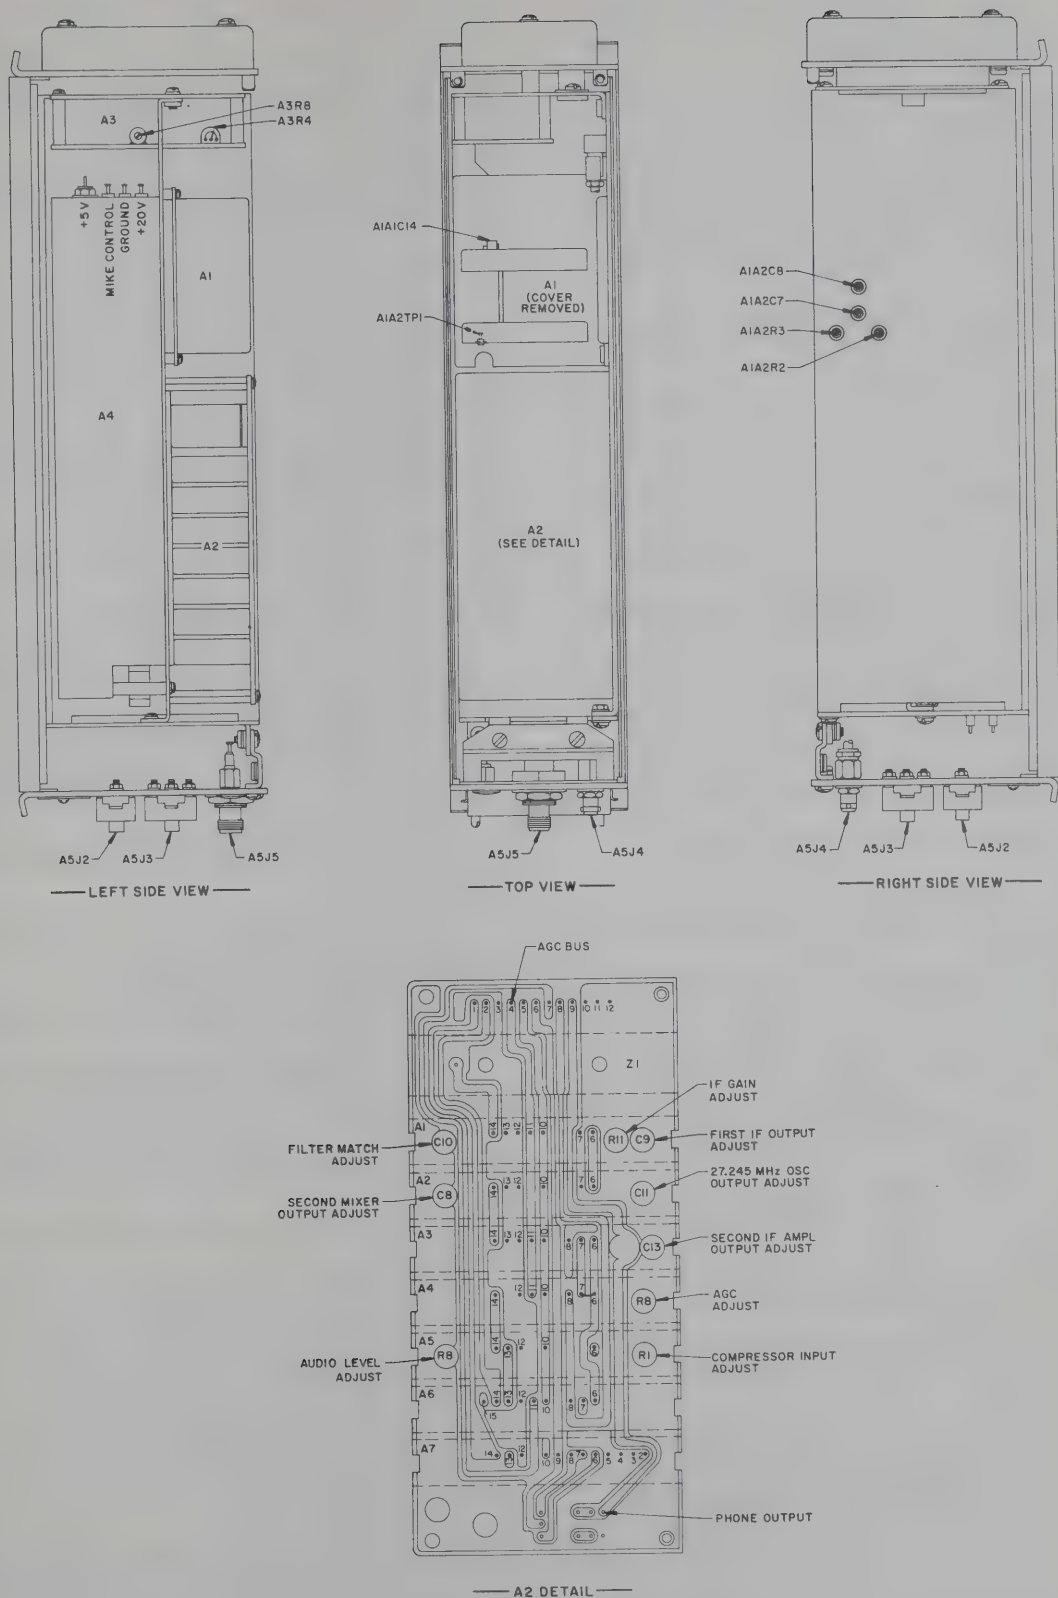
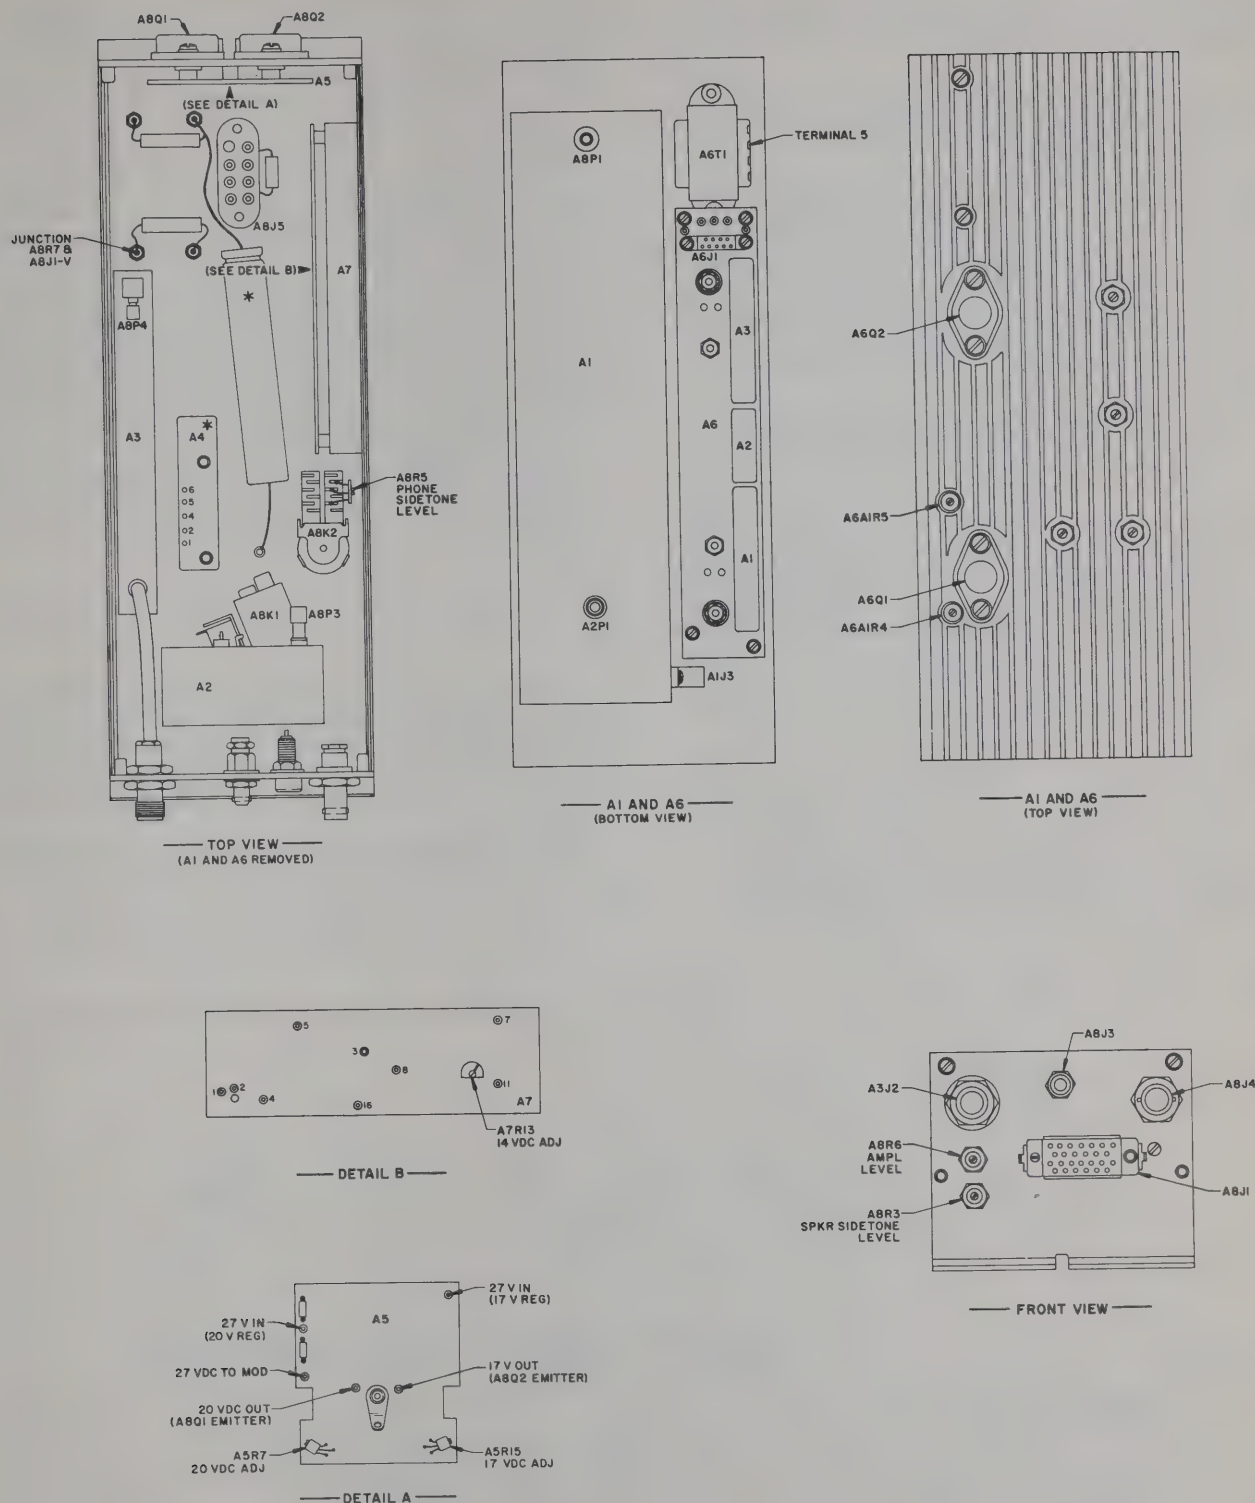

Figure 5-5. RT-831A Receiver-Transmitter, Adjustment and Test Point Location Diagram
Figure 5-6. RTA-831A Accessory Unit, Adjustment and Test Point Location Diagram
Paragraphs 5-9 through 5-12 describe the measurement and adjustment procedures for the other circuits of the receiver-transmitter; Figure 5-5 locates and identifies the adjustment and test points. Paragraphs 5-13 and 5-14 describe the alignment and adjustment procedures for the accessory unit; Figures 5-6 and 5-7 locate and identify the alignment, adjustment, and test points.
Step 2. Connect dc probe of Hewlett-Packard Model 410B VTVM to emitter circuit of A8Q1 in the accessory unit (Figure 5-6).
Step 10. Key transmitter and adjust A7R13 (Figure 5-6) in the accessory unit as necessary to obtain an indication of 14.5 volts on 410B.
Step 4. Through hole in shield cover, connect Boonton Electronics Model 91C RF Voltmeter to A1A2TP1 (Figure 5-5).
Step 2. Connect Boonton Electronics Model 91C RF voltmeter to terminal 14 of A2A2 (see Figure 5-5).
solder 15-volt output lead from terminal 11 of A7 (Figure 5-6) and connect 0-5 ampere ammeter between terminal 11 of A7 and 15-volt lead.